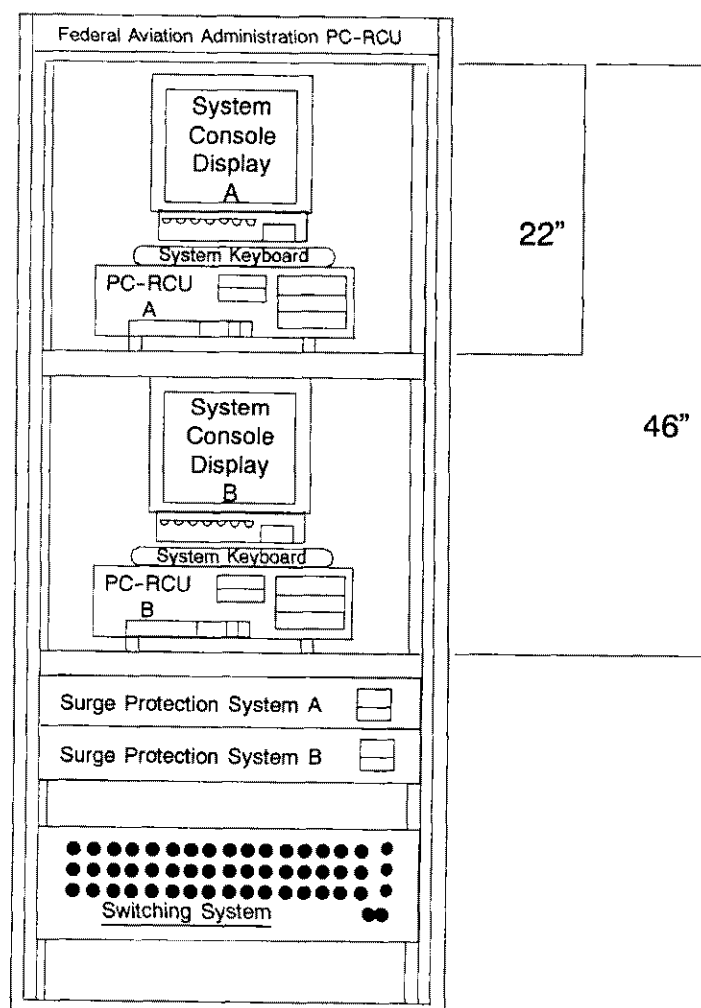

FIGURE 12-2. WESPERCORP 19-INCH RACK CONFIGURATION
12.1.3.1.2 Wespercorp 19-Inch Rack Configuration. This rack configuration pertains to sites that previously had the Wespercorp RCU configuration and are replacing it with the PC-RCU system. Refer to figure 12-2 for shelf placement and layout of equipment within cabinet.